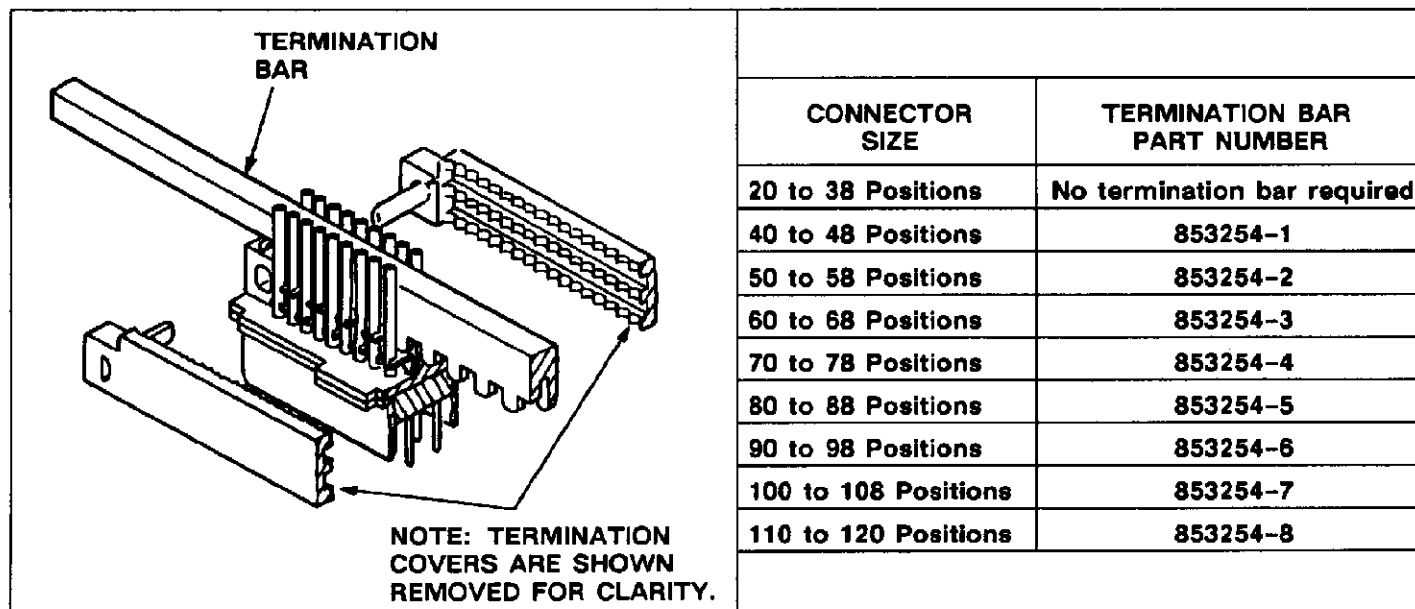

Fig. 3
A termination bar (AMP part number 853254-[]) is required in most connector sizes to terminate connectors with the termination tooling. Refer to Figure 3 and to AMP instruction sheet IS 9427 for the appropriate termination bar for the connector to be terminated.
6. Install the appropriate termination bar, as shown in Figure 3.